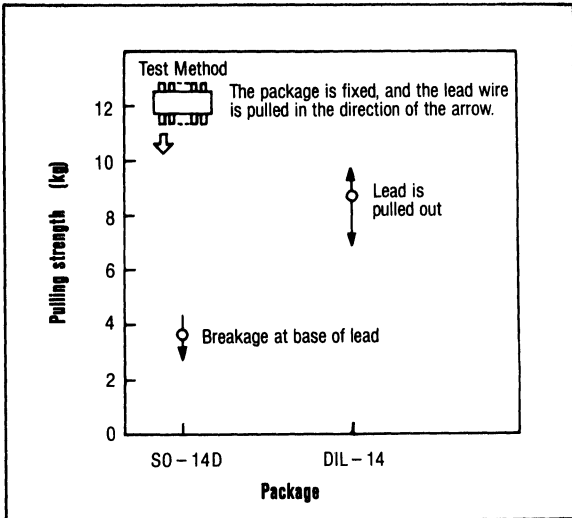

Fig. 4 Results of lead terminal pulling test
- Because of the small, thin structure of the SO IC, the strength of the lead wires, in comparison with conventional plastic packages is as shown in Fig. 4. Thus, particular attention must be paid to their handling.